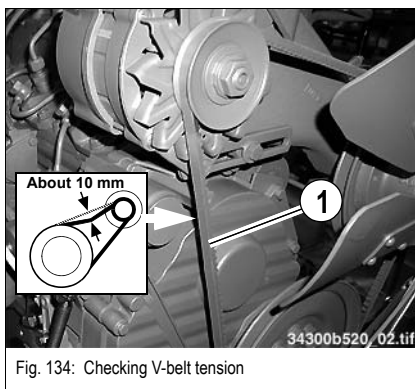

Fig. 134: Checking V-belt tension
- ⚠ Use a suitable tool to push the alternator in the direction of arrow **A** until the correct V-belt tension is obtained (fig. 134).
- ⚠ Check V-belt tension (fig. 134) after about 15 minutes.